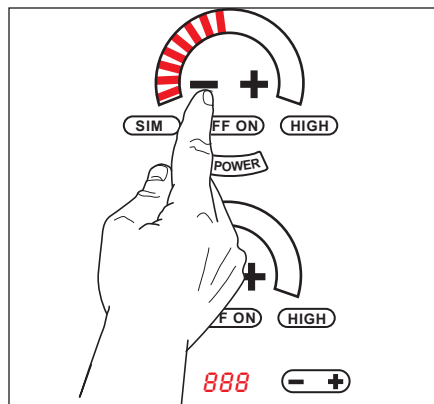

Figure 3-10 Press “-”
1. Touching “-” activates 8 Power Level Indicator - LEDs with a power level equivalent to 5. Touching and holding the “-” pad will lower the power level by 1 for every .5 seconds the pad is depressed. (See Figure 3-10 & 3-11)